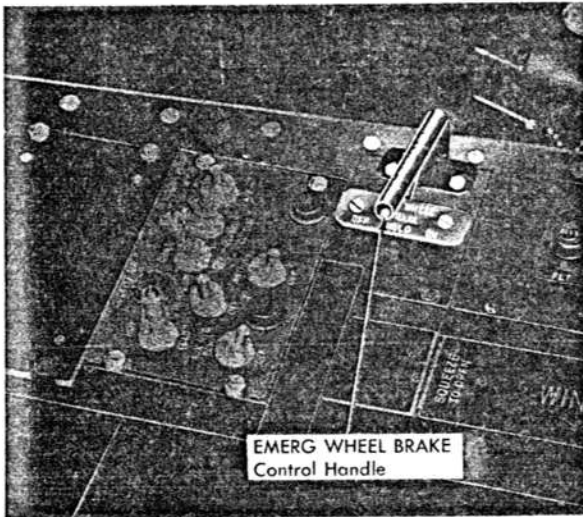

Figure 1-30. Wheel Brake Emergency Control Handle
**EMERGENCY WHEEL BRAKE CONTROL HANDLE.** The EMERG WHEEL BRAKE control handle (figure 1-30) is located on the aft section of the right-hand console. The handle is secured in "OFF" by a cotter pin. Moving the handle (against the holding action of the cotter pin) to "ON" opens the emergency air valve and actuates the wheel brakes by air pressure. When the handle is released, it returns to "HOLD," locking the air pressure at the brakes. Pressure is relieved by turning the control handle to "OFF."